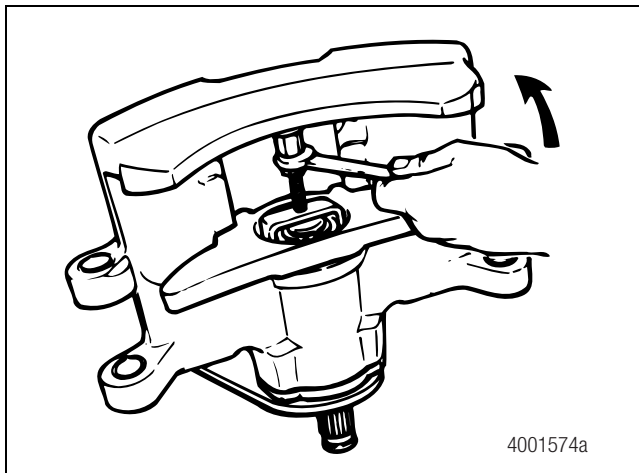

Figure 5.20
13. Turn the nut and force it against the spacer or the opposite side of the caliper. Figure 5.20.